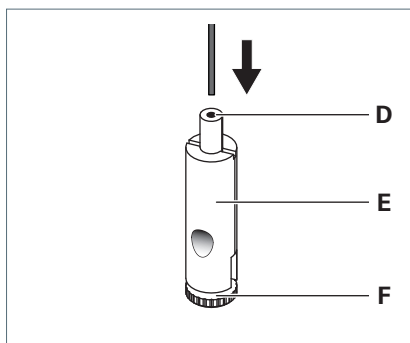

Fig. 11: Mounting the wire rope holder.
- ▶ Guide the wire rope through the guide bushing **D** of the wire rope holder **E**, see Fig. 11.